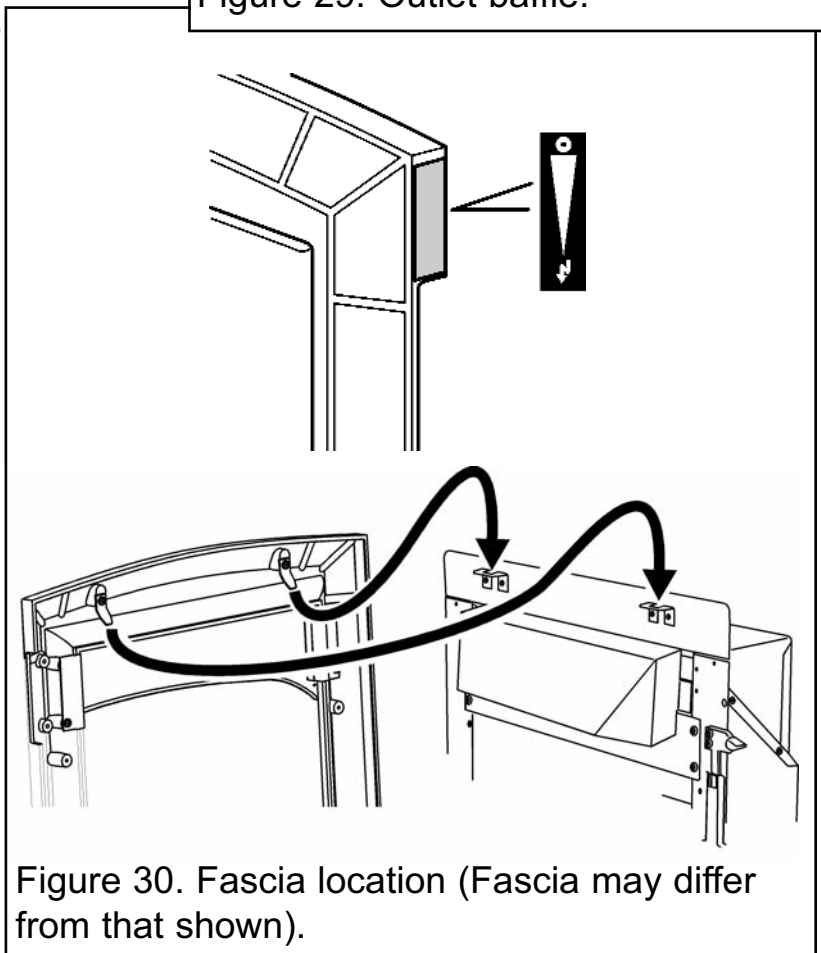

Figure 30. Fascia location (Fascia may differ from that shown).
2. Supplied with the fire is a self adhesive control position label. Peel the backing from the label and place as in figure 30.
3. Place the fascia against the fireplace front surface so that the two retaining plates at the back of the fascia are above the two upper retaining brackets at the top of the convection box. Lower the fascia making sure that the rear retaining plates locate fully into the retaining brackets on the convection box (See figure 30).